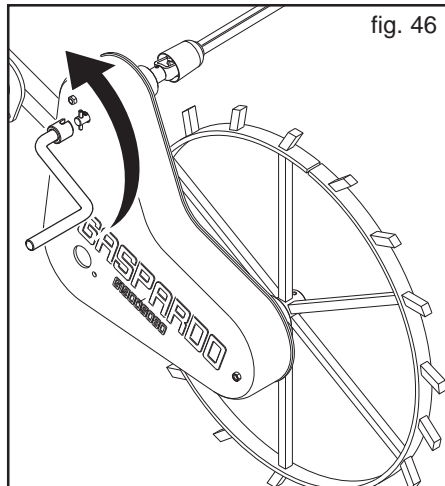

fig. 46
- 5) In order to perform the actual distributor test itself, insert the sowing test handle in the gearbox and rotate it in a counterclockwise (Fig. 46), as shown on the sticker: 86 revolutions of the handle correspond to a 1/10 of a hectare.